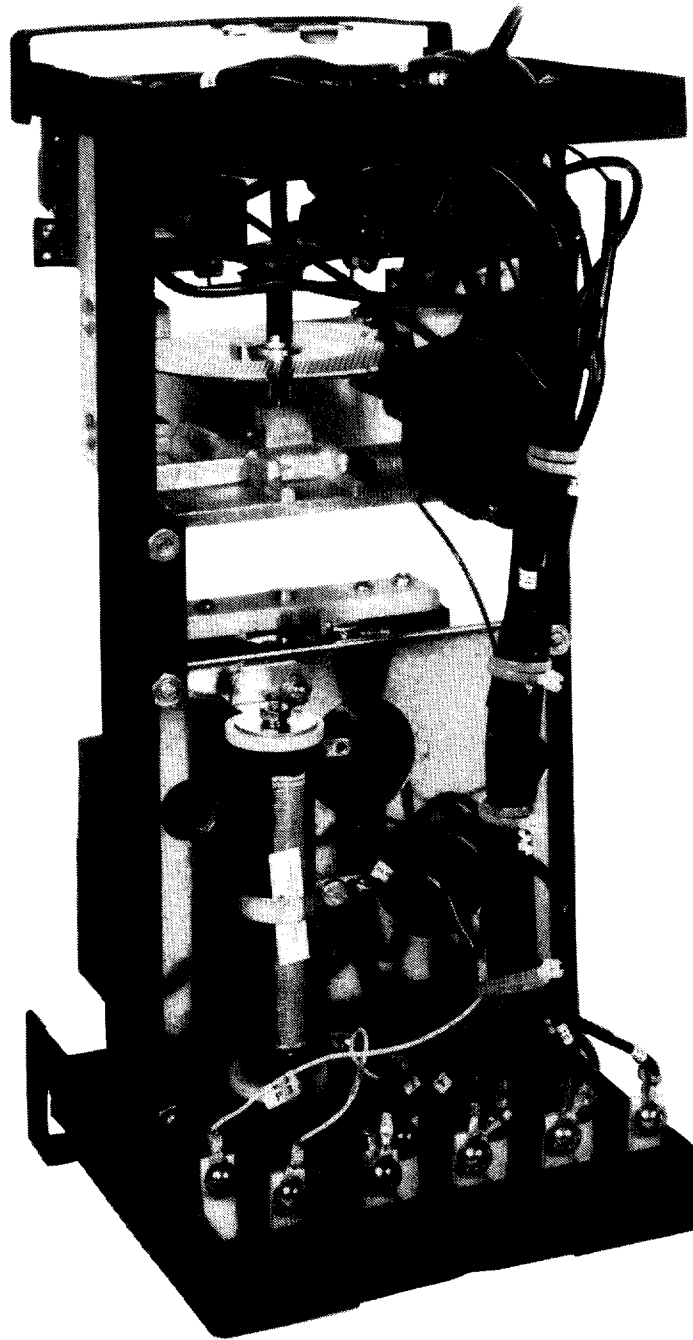

Figure 3 (8043464) Type IBCV51M(-)Y1A Relay Removed from Case (Rear View)
- Figure 3 (8043464) Type IBCV51M(-)Y1A Relay Removed from Case (Rear View)